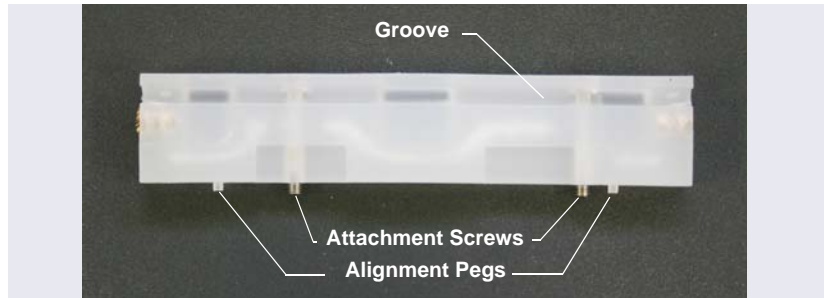

Figure B-30. IC Cube Guide
- a. Note that one side of the guide is grooved (see Figure B-30). Also, note the two alignment pegs and the two attachment screws on the bottom of the guide.